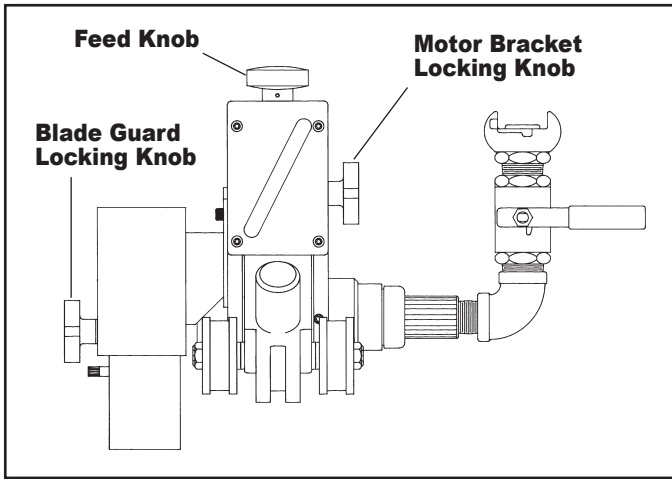

FIG. 4
1. Loosen motor bracket locking knob. (Fig. 4)
2. Retract motor bracket to uppermost position, by turning feed knob counterclockwise. (Fig. 4)
2. Turn cutter feed knob clockwise. (Fig.4) Lower motor and cutter close to, but not touching the pipe. Motor bracket locking knob should be tight, yet allow the bracket to slide.
- 2.* Knowing the thickness of pipe to be cut, turn the feed knob clockwise, (Fig. 4) until the pointer indicates the desired depth of cutter. Allow at least 1/4" of blade beyond depth of cut.
*Exception to this would be if the bevel cutter was being used for plastic, then the cutter would be engaged until the bevel cutter began cutting. At this point the depth gage pointer could be used to determine amount of bevel. Full engagement produces a ¹⁵/₁₆" bevel. (Fig. 4)
3. Tighten motor bracket locking knob. (Fig. 4)
4. Tighten blade guard locking knob approximately 1/8" from pipe. (Fig. 4)